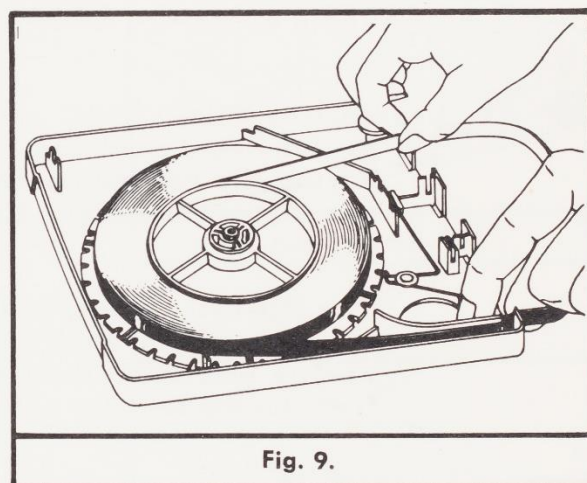

Fig. 9.
13. After tape is spliced, place reel in cartridge with cartridge facing forward. With one hand release spring brake over opening in bottom left of cartridge, and pull tape from center until slack is taken up. (Fig. 9) Place tape around guide post through front guide slots and left guides. (Fig. 7) Release brake again and take up all excess slack. Turn cartridges so you face rear of unit. Place long straight side of wire guide under tape coming from center hub and place front of wire guide in front slot. Place ends of wire guide in their respective slots. The short wire should rub the center hub lightly with the top of the wire just about even or slightly below Hub with V in wire below top of Hub. Figs. 8 and 9 show wire guide in place.